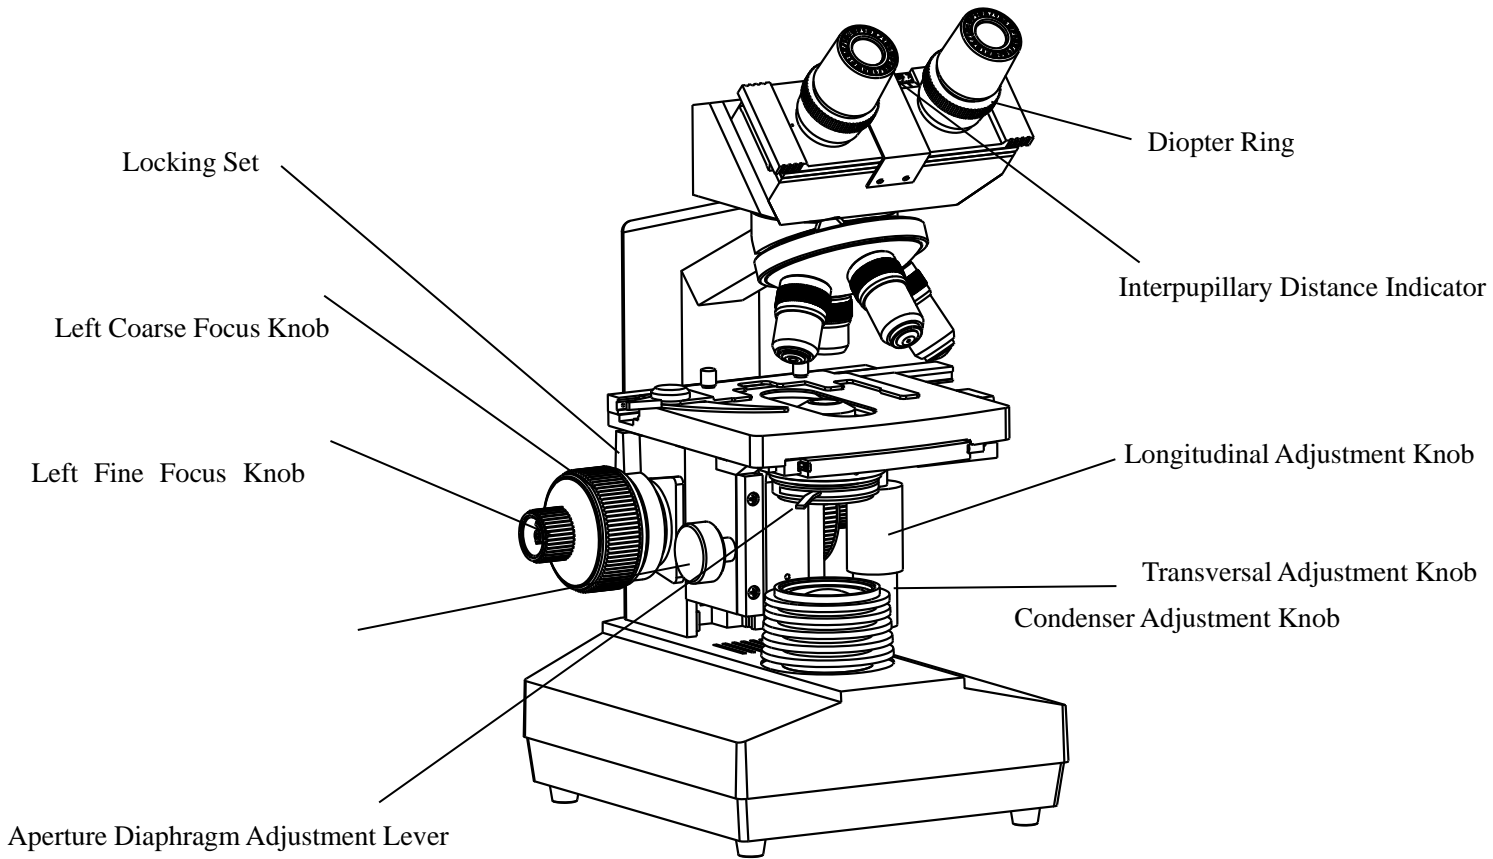
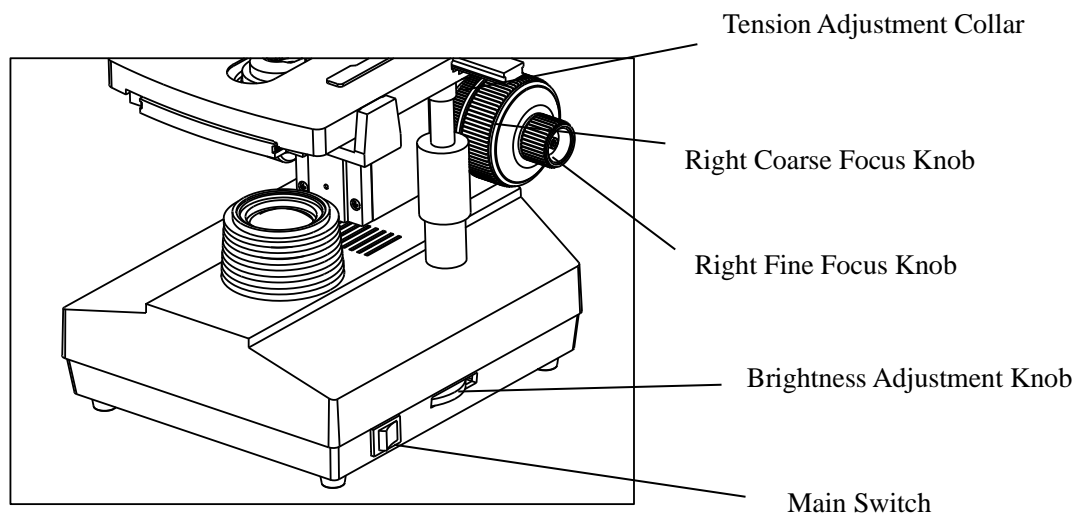

Fig.14
Fig.15
3.1 Adjustment Sets (Fig.14, Fig.15)
2. Turn the coarse focus knob ①conversely to lower the specimen and search images in the 10×ocular simultaneously, and then use the fine knob② to make focus. After that, you can replace with other magnification objectives safely, and focus without the risk of damaging the specimen.
3. When the specimen is focused, tighten the locking set (in Fig.14) to give a height limit to the stage. In this way, the stage only can lower, avoiding false operation and damage to the specimen.